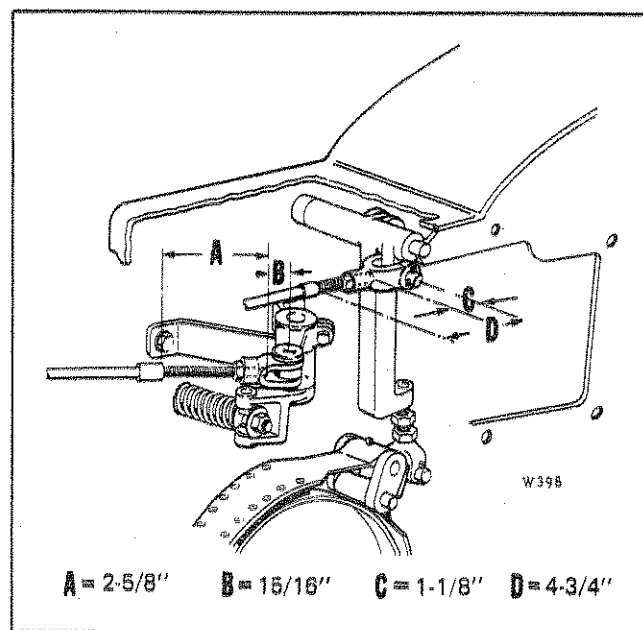

FIGURE 4-5. ADJUSTMENT OF BRAKE LINKAGE
b. Adjust the rod end, at the winch control housing, so that the small cable grommet, threaded cable end, and center of the clevis pin are at dimension **A** and **B**, respectively, as shown in Figure 4-5.
4-14. BRAKE HANDLEVER ADJUSTMENT. (See Figure 4-5.) To adjust the positioning of the Brake Handlever, proceed as follows:
- f. Adjust the push-pull cable at the Brake Handlever end until dimension **D**, Figure 4-5, is obtained. Tighten jam nut.